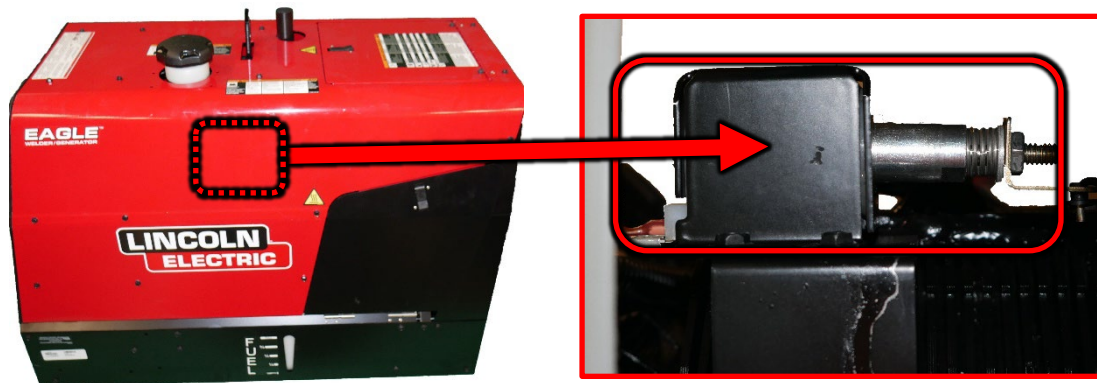

Figure F.1
1. For location of the Idle Solenoid refer to Figure F.1.